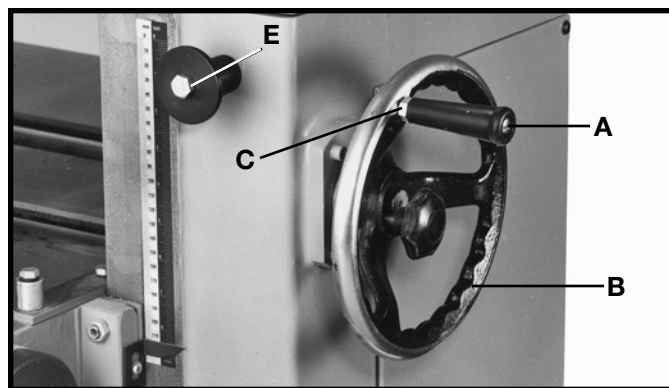

Fig. 3
Two lifting lugs are built into the machine, one of which is shown at (E) Fig. 3. These lugs can be used to mechanically lift the machine using a forklift and lifting straps. **NOTE:** The other lifting lug is located at the rear and the opposite end of the machine. Carefully remove the planer from the shipping skid.
Thread handle assembly (A) Fig. 3, into handwheel (B) and tighten locknut (C).